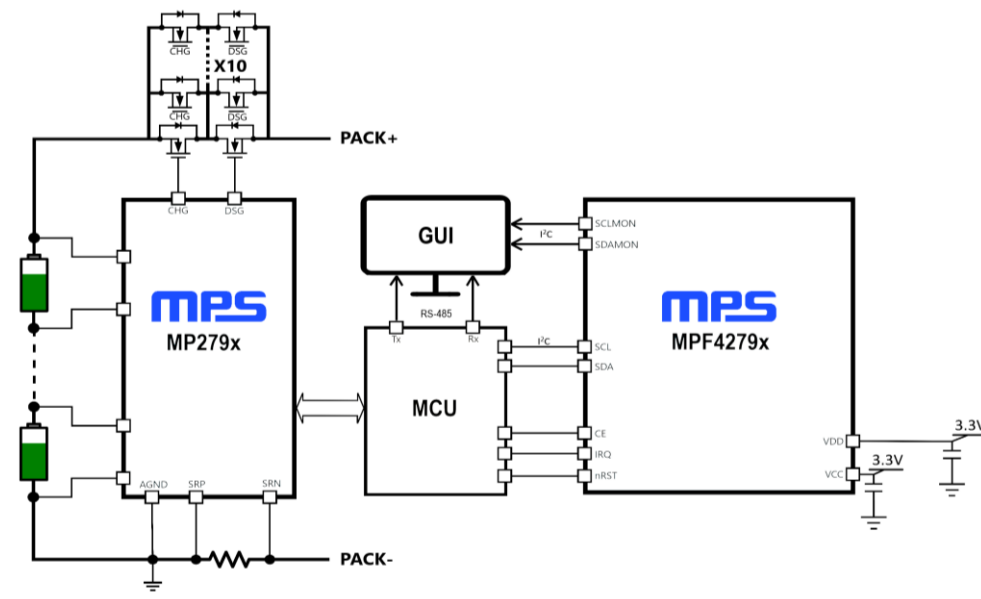

Figure 1: MBMxxS-P100-x Block Diagram Design
The board also features the MPF4279x, a standalone battery fuel gauge (FG) IC that performs state-of-charge (SoC), time-to-full, time-to-empty, and unavailable energy estimation using a custom battery model obtained through exhaustive characterization and voltage, current, and temperature readings. This solution is fast, simple, and easy to configure through the graphic user interface (GUI). Figure 1 shows the MBMxxS-P100-x block diagram.